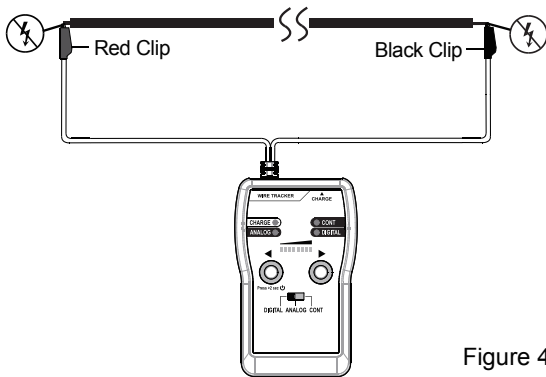

Figure 4
2. As shown in Figure 4, connect the red and black alligator clips of the transmitter to the two ends of the line to be tested.